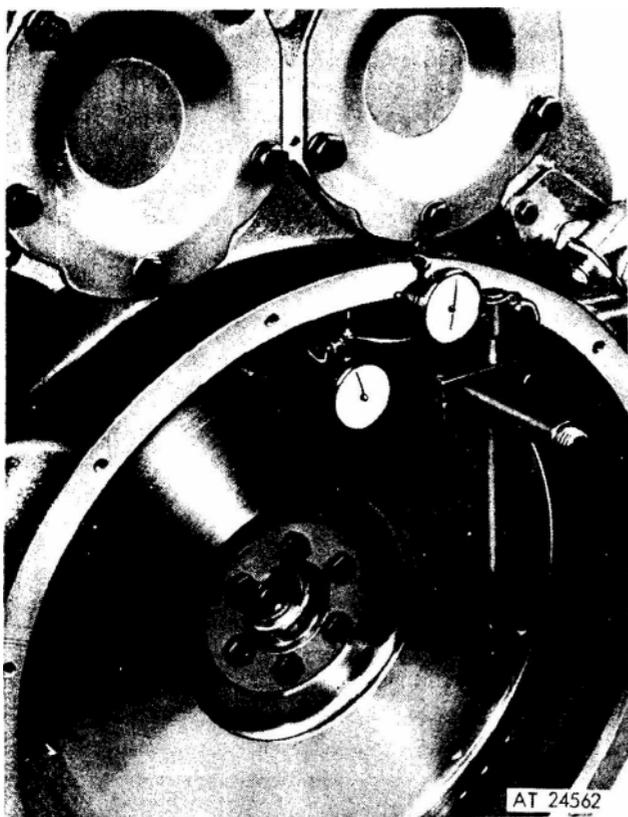

Figure 5. Checking flywheel housing concentricity with tool J 9737.
a. Refer to figure 5 and thread the base post J 9737-3 tightly into one of the tapped holes in the flywheel. Then, assemble the dial indicators on the base post with the attaching parts provided in the tool set.